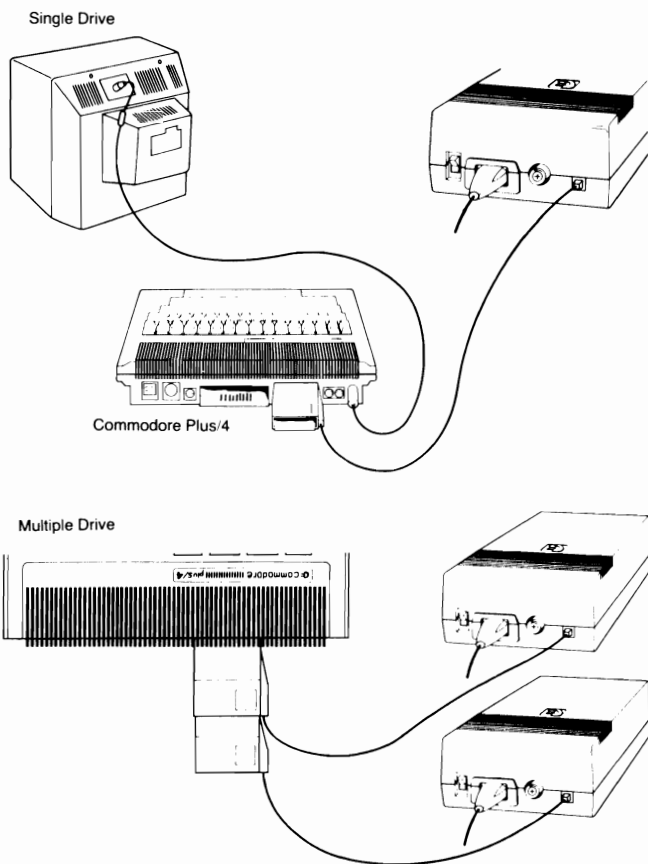

Figure 3. Disk Drive to Computer Hookup
- Figure 3: Single and twin drive hookup**
After plugging the power cord into the disk drive and a suitable outlet, take the interface connector and insert it into the Memory Expansion slot of your computer. That's all there is to it (see Figure 3).